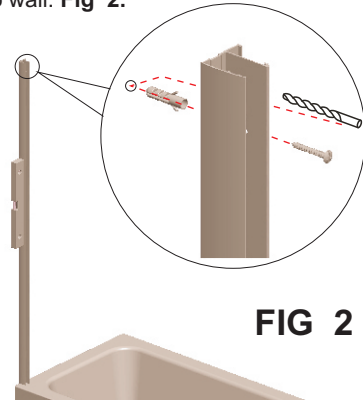

FIG 2
2. Plumb the wall profiles using the vertical element of the spirit level. Mark 3 holes, drill with 6mm masonry bit and fit wall plugs. Using the 3 screws fix wall profile to wall. **Fig 2.**